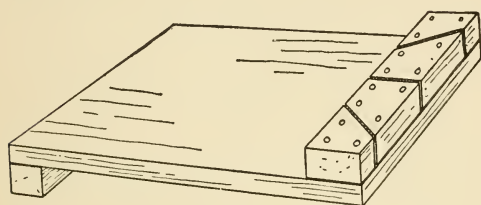

FIG. 11. — A Bench-hook.
**A Bench-hook**, such as shown in Fig. 11. A good size is ten by twelve inches, but it may be made